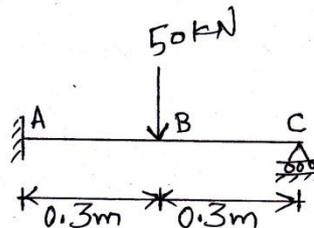

Figure 6
- Q.5 For a beam shown in Figure 6, obtain beam end forces and deflection under the load using finite element method. Plot shear force and bending moment diagrams. **14**